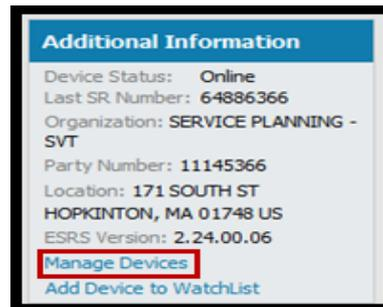
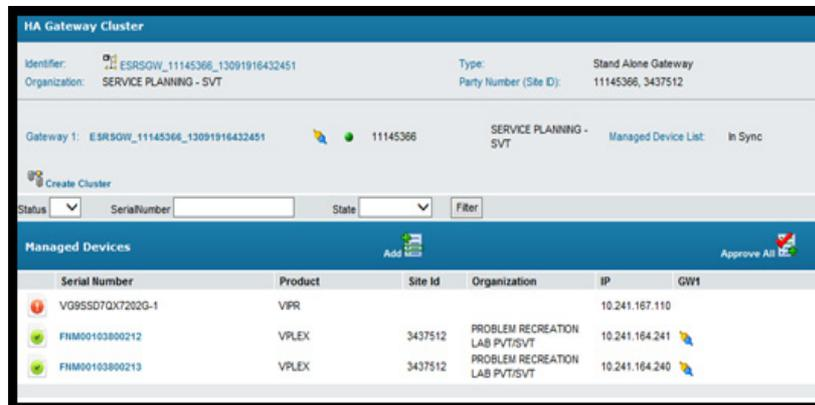

Figure 133 Selecting Manage Devices
Figure 134 Managed Device List
- Once you have determined the gateway or virtual edition serial number, select **Manage Devices**, as shown in Figure 133 on page 114. You can then review the current managed device configuration, as shown in Figure 134 on page 114. Note any existing errors or validation issues.